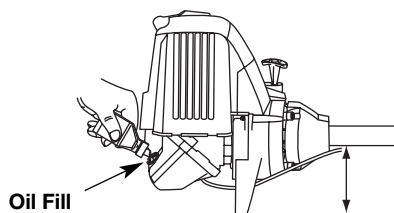

Fig. 2
- Place the unit on a flat level surface (Fig. 2).